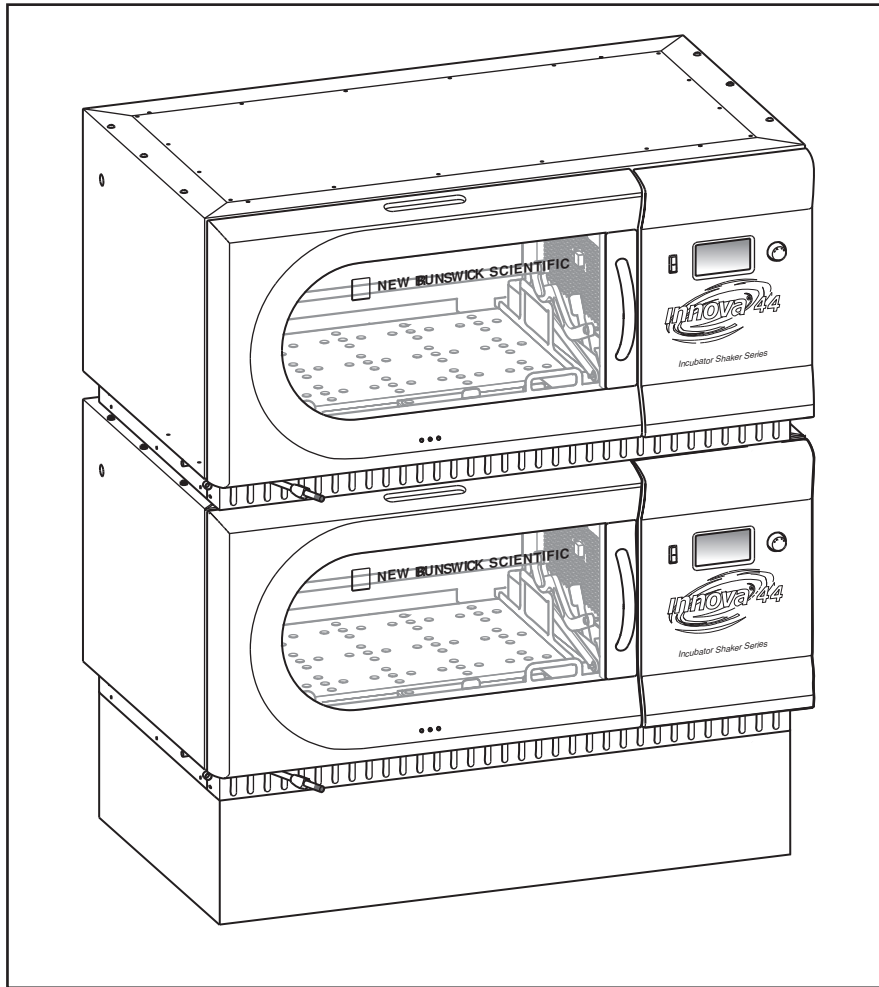

Fig. 6-7: Stacked Shakers
4. As shown (see Fig. 6-7 on p. 29), secure the bottom of the upper shaker to the mounting brackets (already fastened to the shaker below) with the screws, lock washers and washers provided.